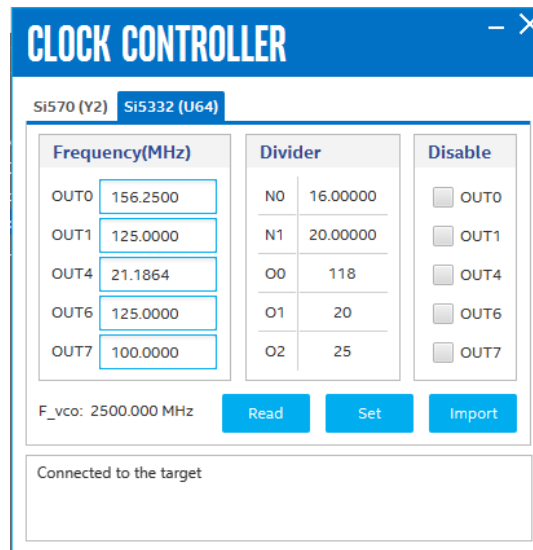

Figure 4. Clock Controller GUI for Si5332 after Successful Configuration
- e. After successful configuration, the Clock Controller GUI should look like Figure 4